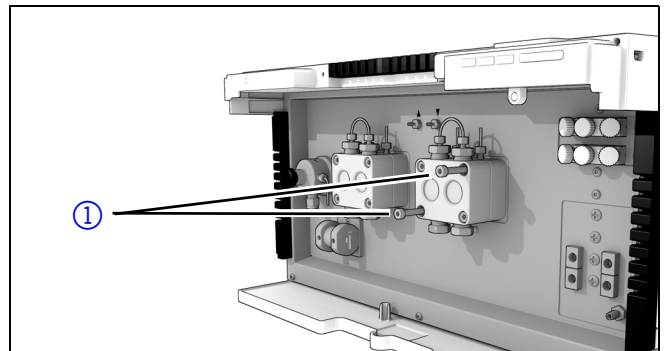

Fig. 2 Loosen and remove the two screws
1. Screw the two screws ① out of the pump head (s. Fig 2).